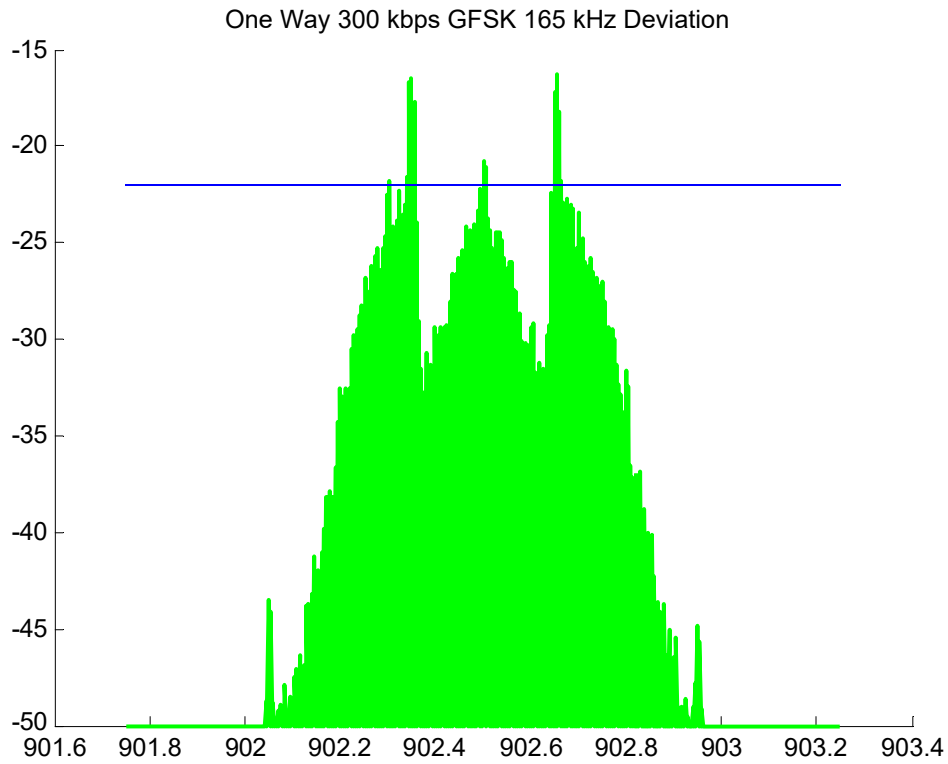

**Figure 9 – RF Spectrum using GFSK modulation at 300 kbps, 165 kHz deviation**
- 2) Digital modulation system: Such systems must have a minimum 6 dB bandwidth of 500 kHz, and a maximum output power of 1 W. An additional requirement is that the peak power spectral density shall not exceed 8 dBm in any 3 kHz band. With the CC1101, CC1150, and CC1110, this can be achieved by using GFSK modulation at a data rate of 300 kbps and a deviation setting of 165 kHz. Refer to the spectrum plot, Figure 9.